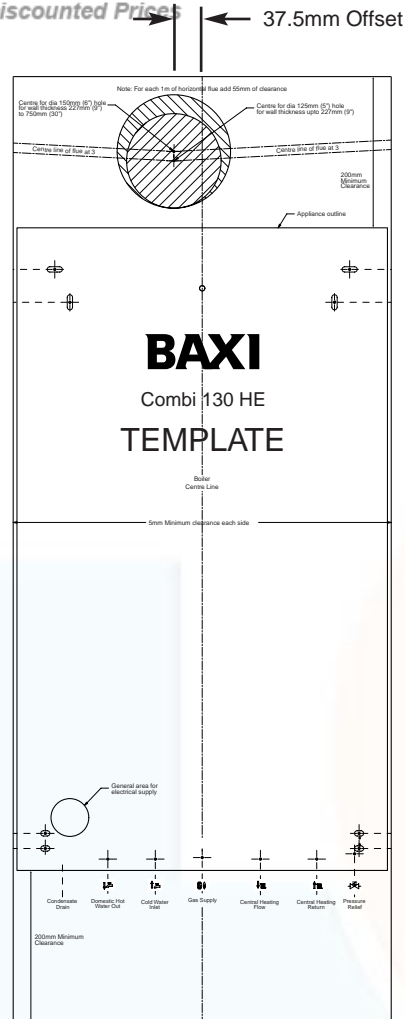

Fig. 14
1. Remove the fixing template (Fig. 14) from the fixing carton.